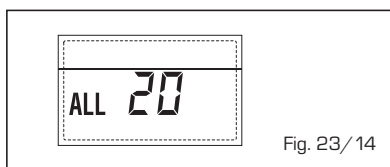

Fig. 23/14
**- ANOMALIA AVARIA SONDA IMPULSÃO PRIMEIRA ZONA MISTURADA “ALL 21” (fig. 23/15)**